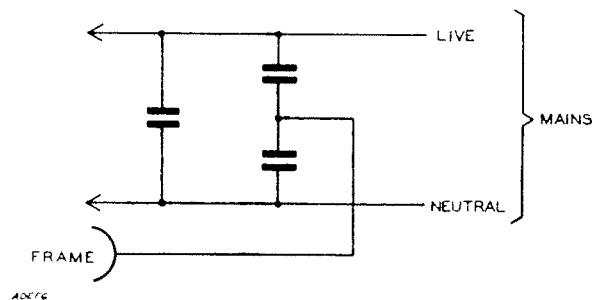

FIG. 6—METHOD OF CONNECTING CAPACITORS TO AN APPLIANCE NOT PERMANENTLY EARTHED (FOR MAXIMUM CAPACITANCE VALUES SEE TABLE 1)
30. Capacitor filters. Fig. 6 shows the method of connecting capacitors to an appliance which is not permanently earthed. The maximum values of capacitance which may be used are given in Table 1, Items (a) and (d).